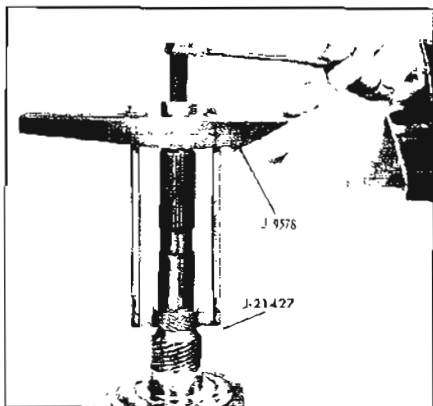

Figure 5-563
a. Install Speedo Gear Removing Tool, J-21427 and J-9578, on output shaft and remove drive speed gear. See Figure 5-563.